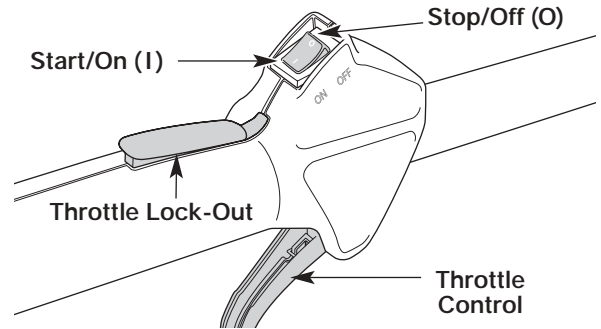

Fig. 6
2. Put the On/Off Stop Control in the OFF (O) position until the unit shuts down (Fig. 6).